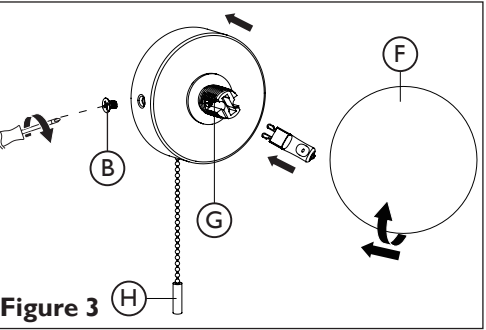

Figure 3
Refer to Figure 3. Attach the product to the wall by refitting the side screws (B) set aside earlier. Tighten the screws to secure. Take care not to trap any wiring.
Refer to Figure 3. Fit the bulbs as detailed overleaf.
Refer to Figure 3. Screw the shades (F) onto the threaded lampholders (G). Do not overtighten.